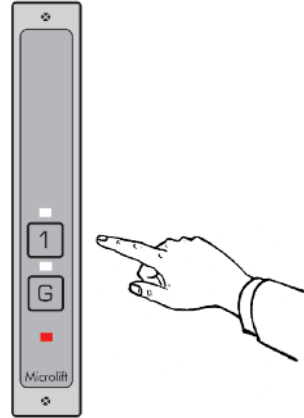

Fig. 21
- Press the button to send the lift to the desired floor (Fig.21). (For push button control instructions, please see p5).